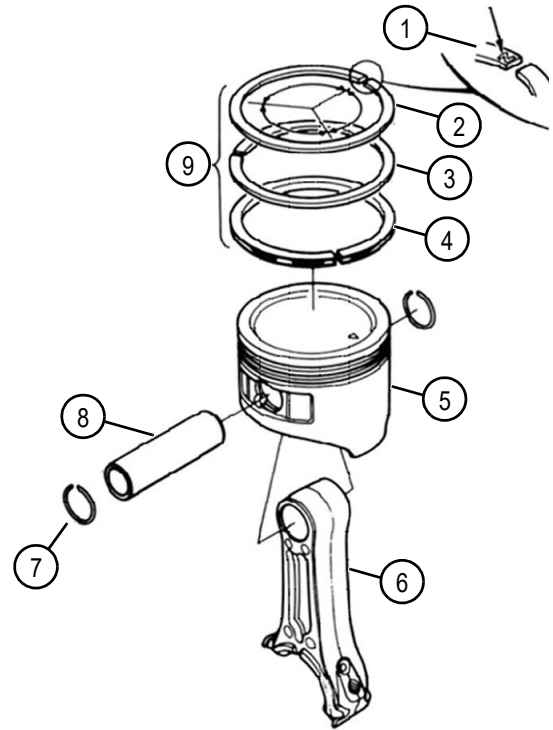

Figure 4-30: Piston Rings and Connecting Rod (typical)
1. See Figure 4-30. If replacing the piston rings, remove piston rings from piston and discard.